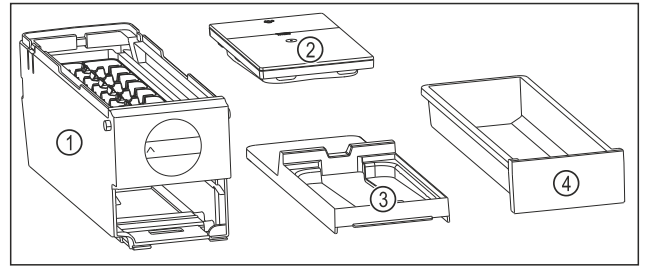

Fig. 146 Components of the EasyTwist-Ice
- ▶ EasyTwist-Ice is dismantled into four parts. (see Fig. 146)
- ▶ Only dismantle the EasyTwist-Ice into the components shown. (see Fig. 146)
- ▶ Clean the EasyTwist-Ice body Fig. 146 (1) as a whole.